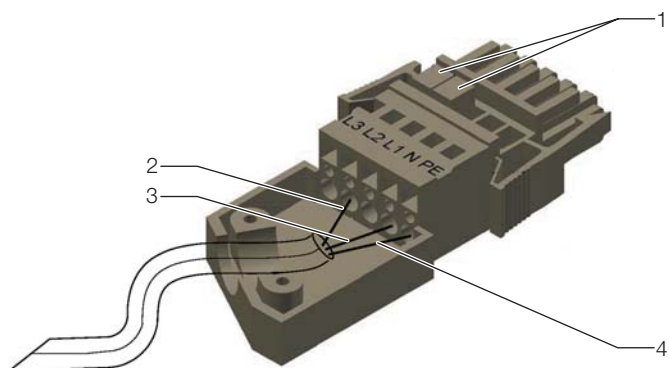

Fig. 38: Schematic diagram of the connection plug with strain relief housing
- Bypass the phase connections on the connection plug using the two included bridges (Fig. 38, item 1).:Place one bridge between phase conductors L1 and L2 and one bridge between phase conductors L2 and L3.